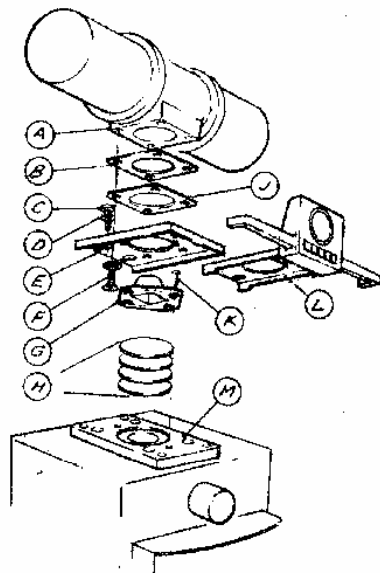

Fig 3. FITTING DEMARCATOR TO X-RAY TUBE
4.7 Preparation of LBD for Installations Refer to Fig 3.